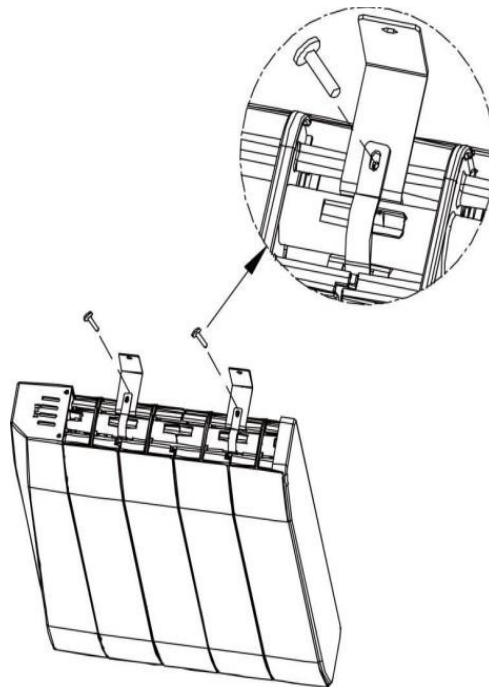

Figure 5: Securing curved plate with short screws
8. Secure the curved plate into the bracket slot with the short screws (**Figure 5**).